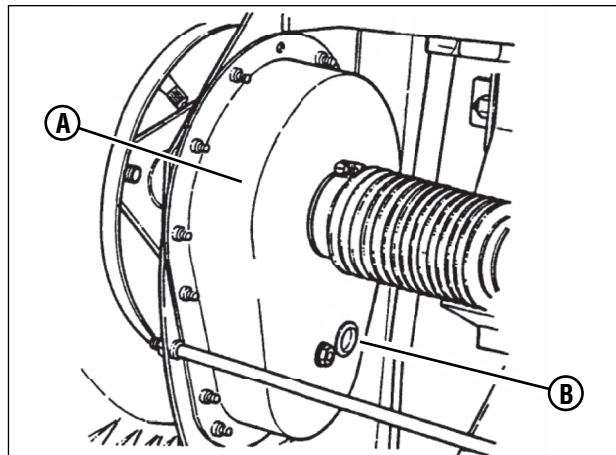

Figure 28: Differential lubricant check
1. Stand the rear engine rider on its rear bumper and check the fill/level plug (A, Figure 28) on the differential (B) for cracks and wear. Replace the fill/level plug if signs of wear are visible.